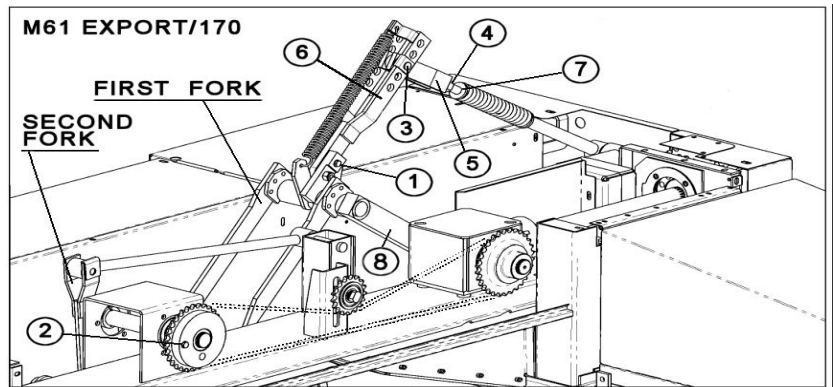

Fig. 10
In the event that the bales don't have a perfect geometric shape, adjust the position of the first fork (fig. 10).
A) If the bales come out of the compression chamber like fig. 26 bis / A, (I.E. the bales are longer on the outer side of the compression chamber), it is necessary to move adjustable fork 5 - Fig. 10 upwards by fixing pivot 3 Fig. 10 in one of the holes towards the top of rod 6 Fig. 10.
If this is not sufficient, it is necessary to shorten rod 7 Fig. 10 by adjusting nut 4 Fig. 10 after adjustable fork 5 Fig. 10 has been disconnected from rod 6 Fig. 10.
B) On the contrary, if the bales come out of the compression chamber like Fig. 26bis / B, (I.E. the bales are longer on the inner side/knives side of the compression chamber), it is necessary to move adjustable fork 5 / Fig. 10 downwards by fixing pivot 3 / Fig. 10 in one of the holes towards the bottom of rod 6 Fig. 10.
If this is not sufficient, it is necessary to lengthen rod 7 / Fig. 10 by adjusting nut 4 Fig. 10 after adjustable fork 5 / Fig.10 has been disconnected from rod 6 Fig. 10.
Attention: see the instruction sticker on rod 6 fig.10 on the baler.